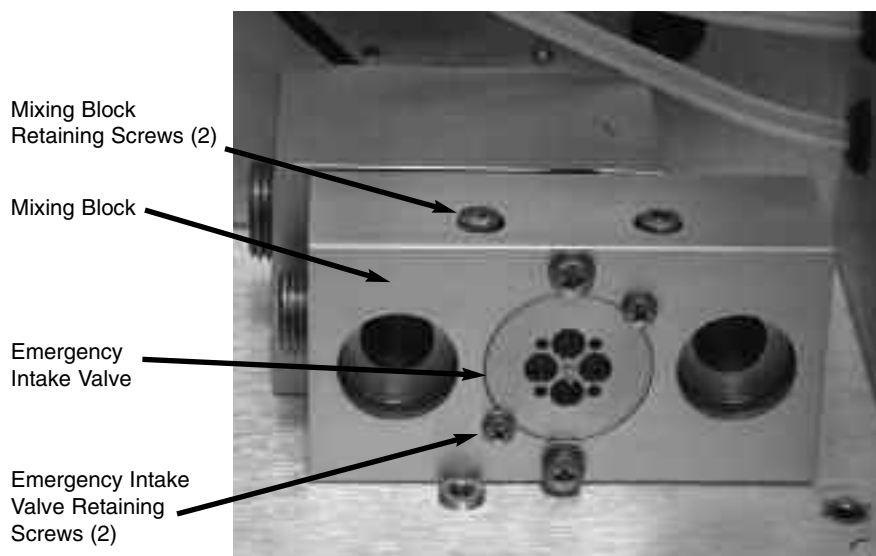

Figure 2-8 Emergency Intake Diaphragm Replacement
- 4 Remove two Emergency Intake Valve retaining screws, see Figure 2-8 above.
- 1 Remove the Mixing Block by removing the two retaining screws, see Figure 2-8.